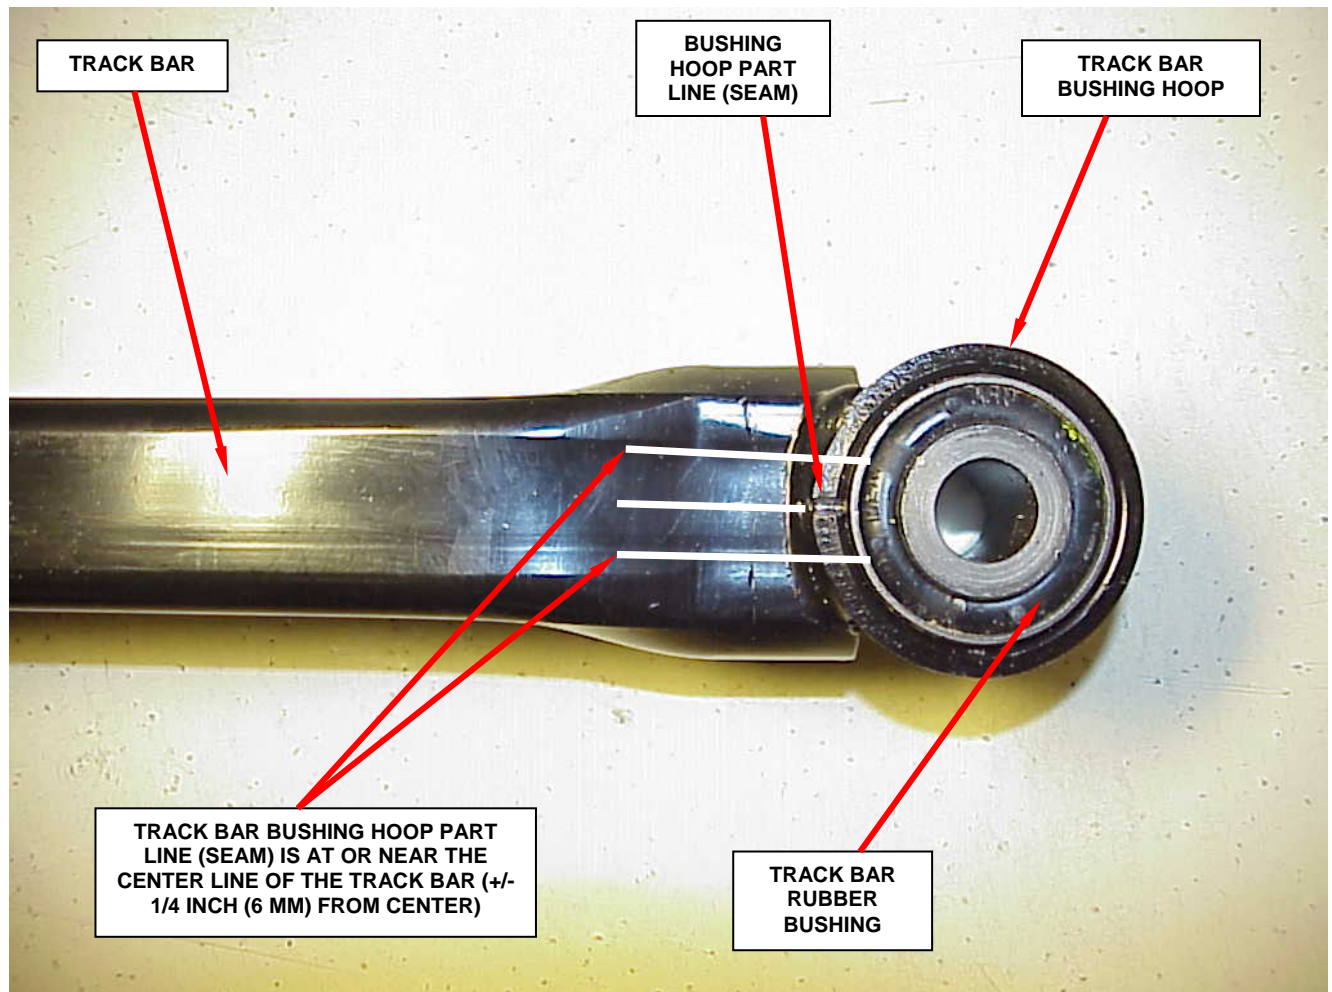

Figure 3 – Inspect Bushing Hoop Part Line Location
2. Inspect both track bar bushing hoops (Figure 3):
- If the part line (seam) on both bushing hoops are at or near the center line of the track bar (+/- 1/4 inch (6 mm) from center), the track bar does not require replacement (Figure 3).
- If the part line (seam) on either of the bushing hoops is not within +/- 1/4 inch (6 mm) from the center line of the track bar, replace the track bar (Figure 3).